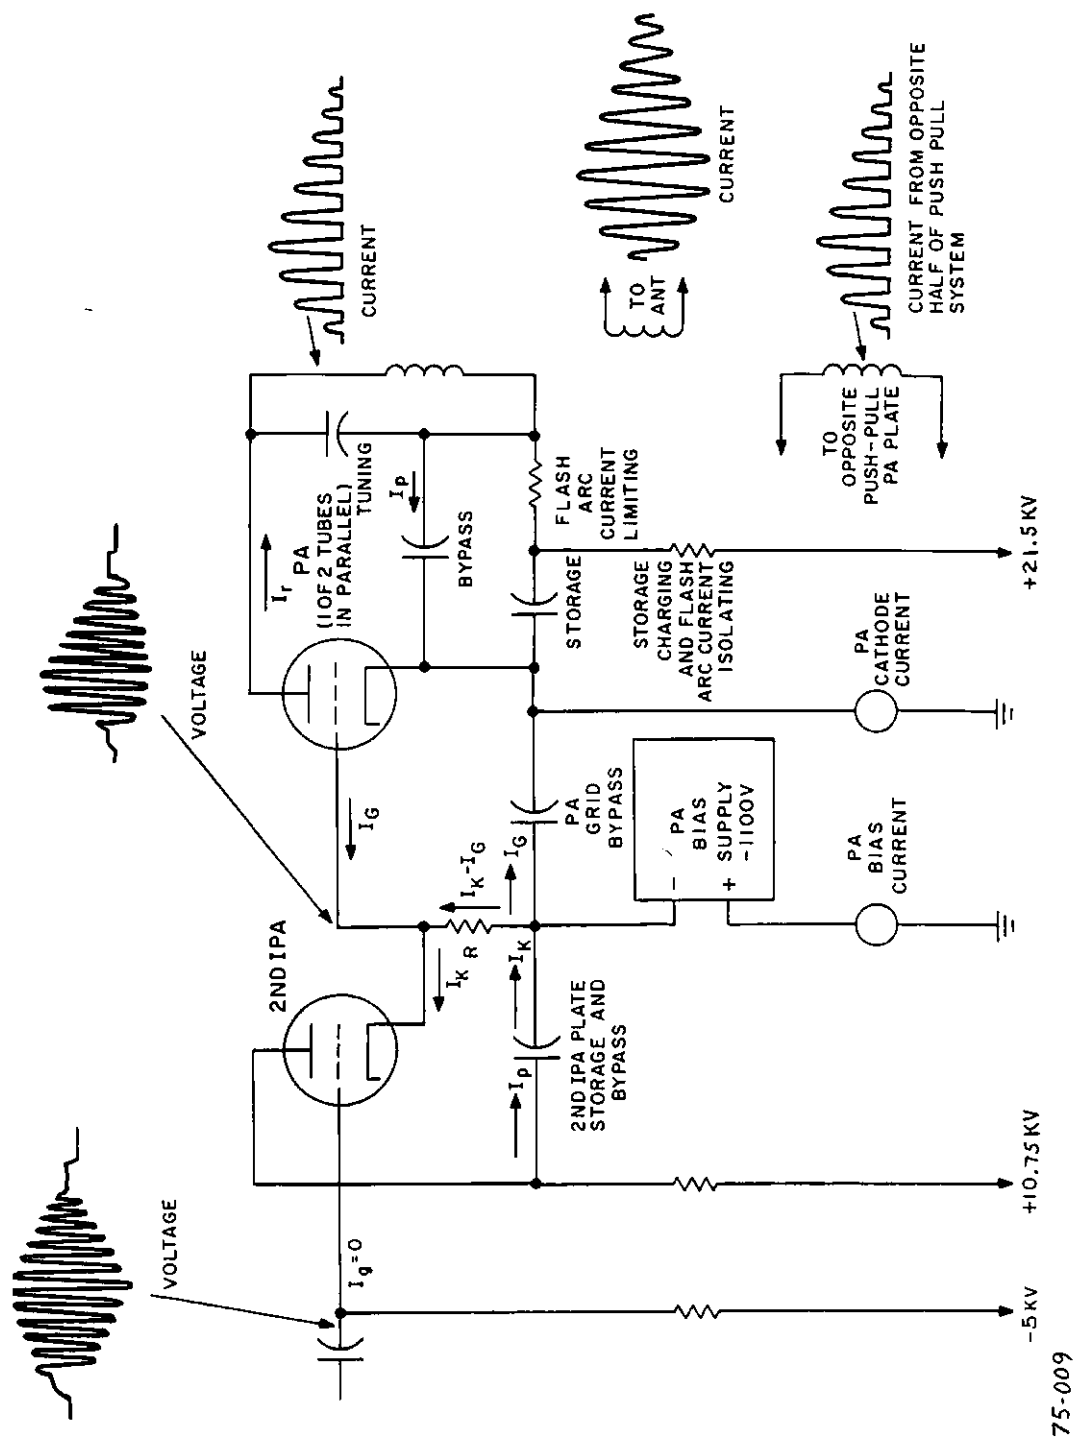

Figure 4-4. Amplifier Group, 2nd IPA and Radio Frequency Amplifier PA Stages,
The peak signal currents represented by the arrows in figure 4-4 are far beyond the peak current capability of the dc power supplies. The second IPA plate bypass and PA grid bypass capacitors are the energy storage sources for the heavy grid cathode circuit currents. Between loran pulses, the plate bypass is recharged by the series combination of the 10.75 kv supply and the PA bias supply. The PA grid bypass recharges from the PA bias supply alone. As this recharge cannot fully take place between pulses, the droop in voltage at these capacitors during the pulse group may be overcome by increased drive from pulse-to-pulse which is produced by droop compensation in the driver equipment.
(4) POWER AMPLIFIER. - The PA stage (figures 4-4 and 6-41) is a push-pull parallel triode amplifier operating Class B. The tubes are biased below cutoff until the bias pedestals occur. The amplitude of the bias pedestals is adjusted to raise the biasing level from below cutoff to the proper operating point. Positive-going grid voltage pulses produce plate-current pulses which flow to the plates through the tuned PA tank circuit. Tight coupling from each side of the push-pull plate circuit to the output, results in the two 'half-wave rectified' currents, combining to form the desired symmetrical carrier.